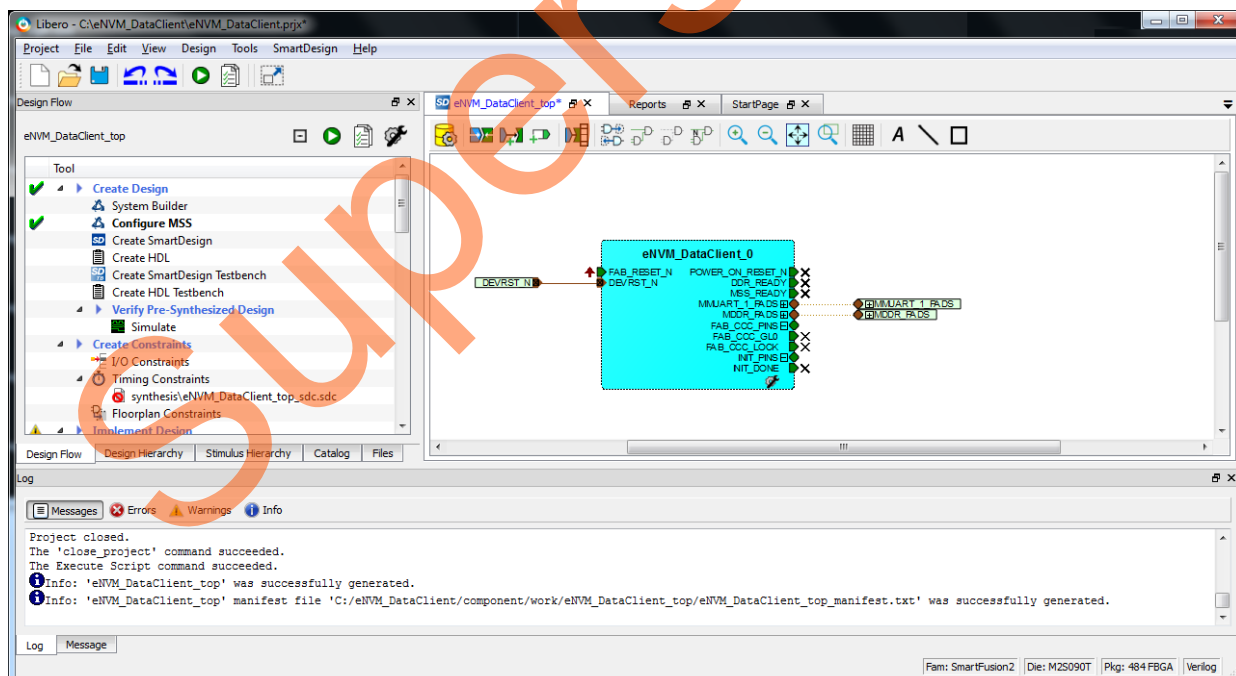

Figure 12 • eNVM_DataClient_top Tab
1. Open the Libero SoC hardware project **eNVM_DataClient_top** tab, see Figure 12.
2. Double-click **eNVM_DataClient_0** and go to **System Builder - Memories** page to add the eNVM Data Storage client, see Figure 12.